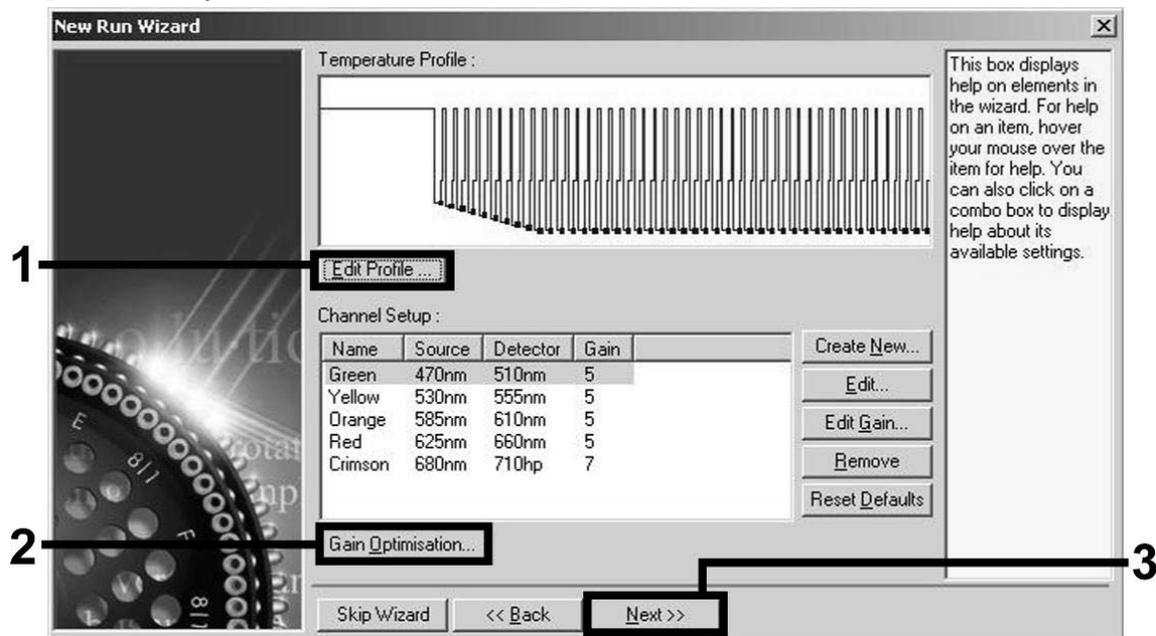
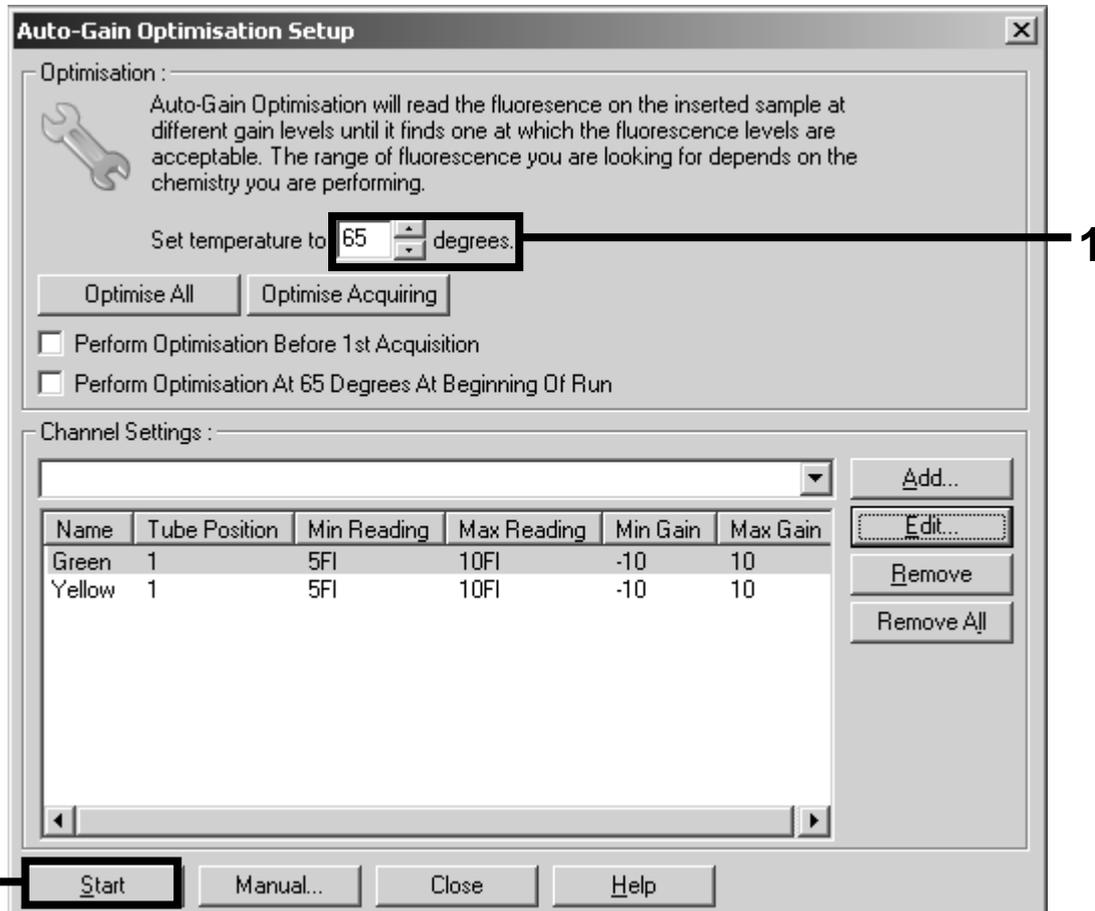

Figure 7. Editing the profile.
Figure 10. Adjusting the fluorescence channel sensitivity.
Adjusting the fluorescence channel sensitivity	Figures 10–16
- Click the "Edit Profile" button in the next "New Run Wizard" dialog box (Figure 7), and program the temperature profile as shown in Figures 7–9).
- The detection range of the fluorescence channels has to be determined according to the fluorescence intensities in the PCR tubes. Click "Gain Optimisation" in the "New Run Wizard" dialog box (see Figure 7) to open the "Auto-Gain Optimisation Setup" dialog box. Set the calibration temperature to 65 to match the annealing temperature of the amplification program (Figure 10).
- If you are performing assay setup for a single assay, click "Start" (Figure 10) and proceed directly to step 16, page 47. For a multi-assay run where both CMV and EBV will be assayed in the same PCR, proceed to step 9 to adjust the fluorescence channel intensities manually.